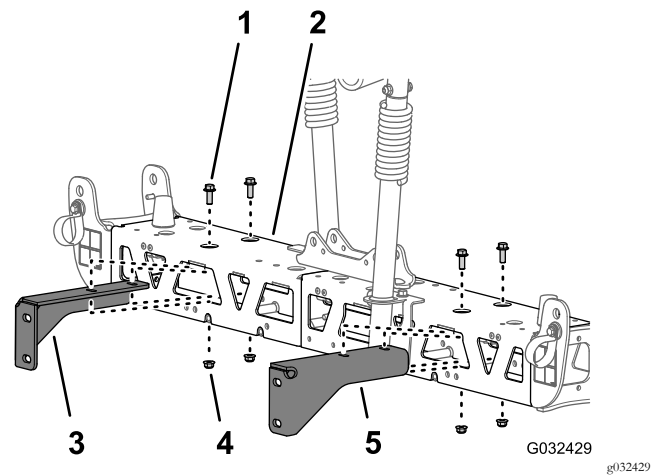

Figure 73
bracket to the center boom section, and remove the bracket (Figure 73).
- Remove the 2 flange-head bolt (3/8 x 1 inch) and 2 flange locknut (3/8 inch) that secure the other support bracket to the center boom section, and remove the bracket (Figure 73).